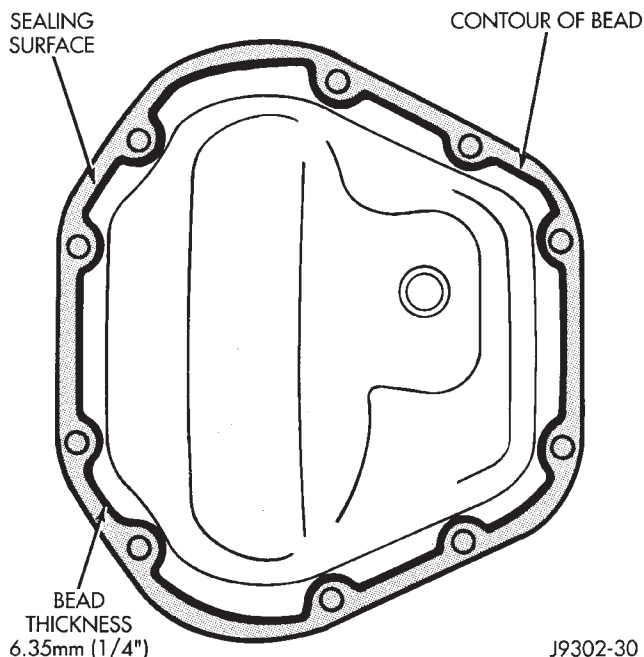

Fig. 38 Typical Housing Cover With Sealant
(1) Install the axle shafts. Refer to Axle Shaft Installation within this group.
(2) Scrape the residual sealant from the housing and cover mating surfaces. Clean the mating surfaces with mineral spirits. Apply a bead of Mopar Silicone Rubber Sealant on the housing cover (Fig. 38). Allow the sealant to cure for a few minutes.